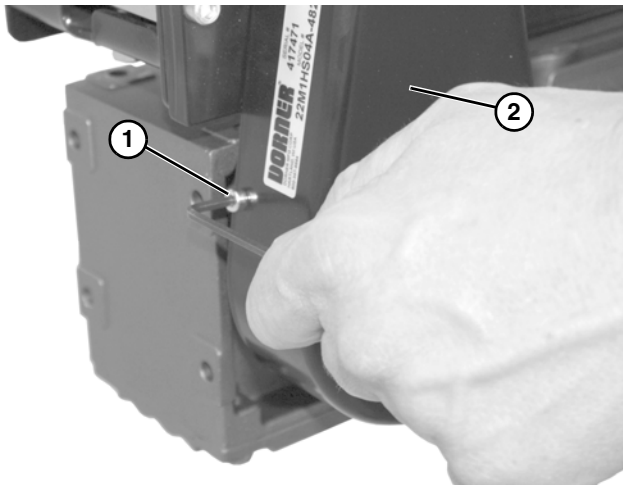

Figure 18
1. Remove four (4) screws (Figure 18, item 1) and remove cover (Figure 18, item 2).
6. Install cover (Figure 18, item 2) with four (4) screws (Figure 18, item 1). Tighten to 35 in-lb (4 N-m).